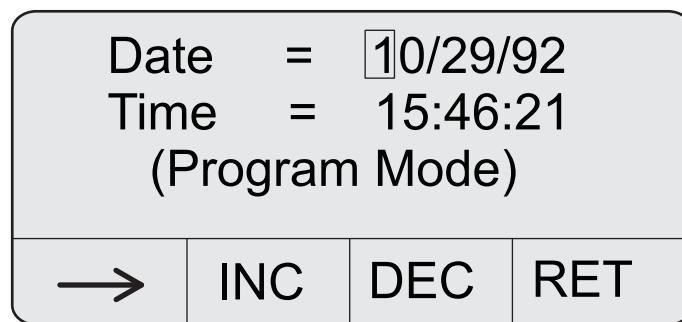

Figure 13 Date and time screen
1. Press 4 (CLK) on the main screen. The Date and Time screen is displayed (refer to Figure 13).